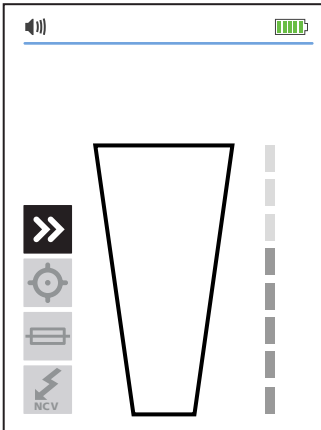
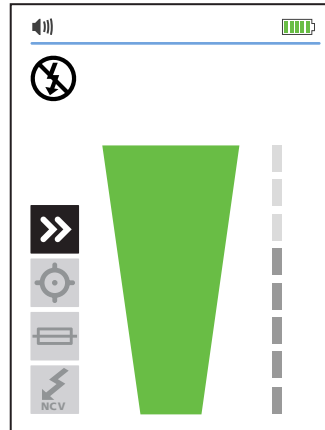

Figure 3.1c: Signal not detected
Figure 3.1d: Signal detected
3. For best results while tracing Energized wires, align groove on the Tip Sensor with wire direction as shown in Figure 3.1c and Figure 3.1d. Signal may be not detected if not properly aligned. To verify wire direction, periodically rotate the Receiver 90 degrees. Signal strength will be the highest when wire is aligned with the Tip Sensor groove. Depending on the detected signal, the Receiver automatically switches to either Energized (⚡) or De-energized (⚡ with slash) mode, and displays this information on the LCD. No manual setup is necessary.